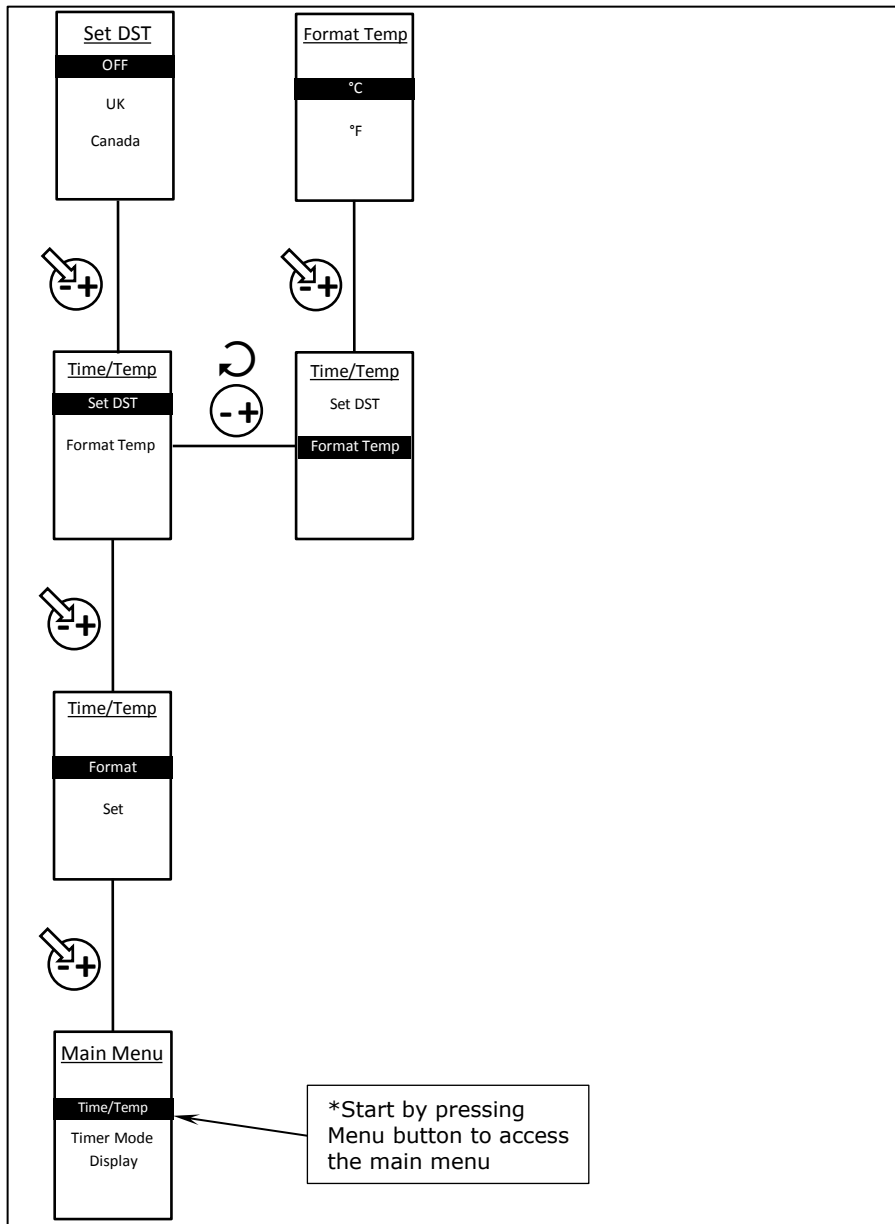

Figure 16: How to Change the Format of Time and Temperature
- format of time and date and the unit of measure for the temperature display (see Figure 16)